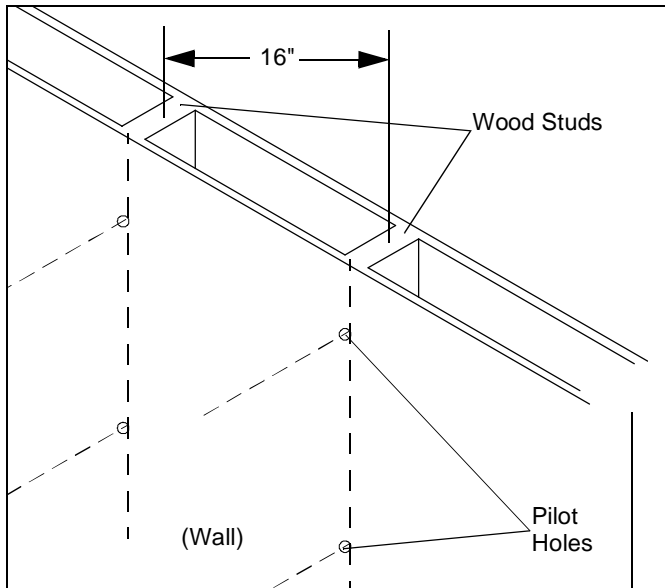

Figure 1
2. Using a stud sensor locate two wood studs 16" on center. (See Figure 1)
1. Thread cable ties (J) under cable clamps in mount arms. (See Figure 1)